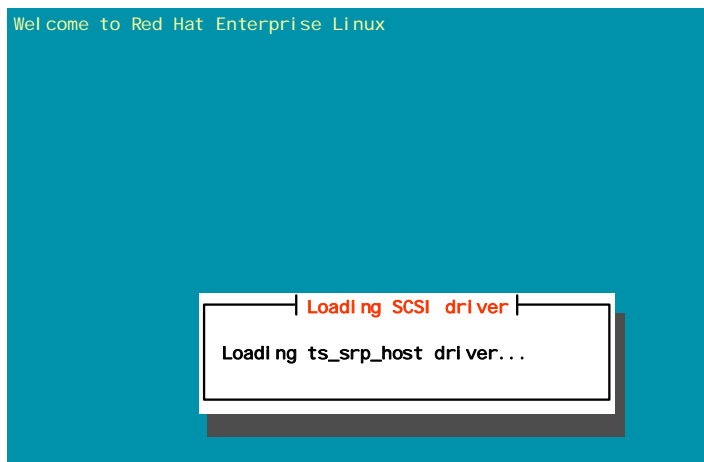

Figure 6-25 Loading SRP driver on the blade
- The installation proceeds. Figure 6-25 shows the installer is loading the ts\_srp\_host driver correctly.